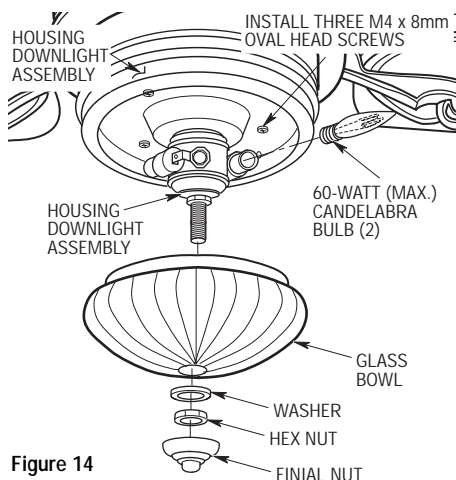

Figure 14
- 10. Screw in two 60-watt (maximum) candelabra bulbs (supplied) in the light fitter sockets (Figure 14).
- 12. Position the glass over the threaded nipple. Slide the washer onto the threaded nipple and gently tighten the hex nut to secure the glass and washer. Install finial nut finger tight (Figure 14).